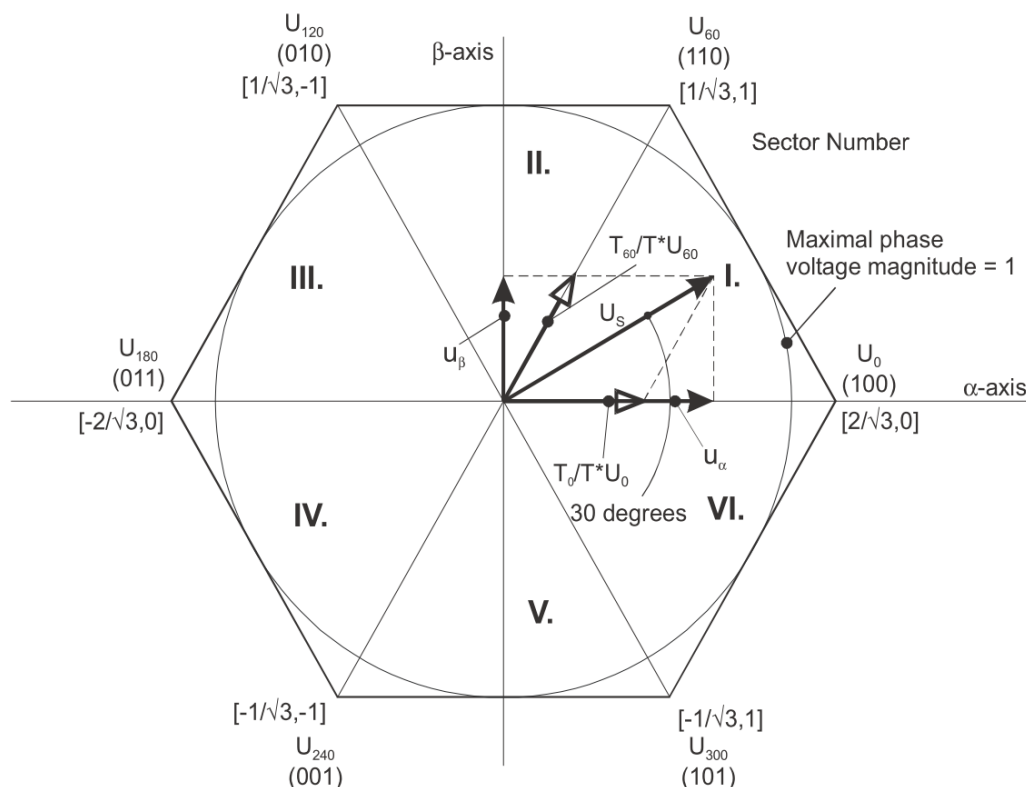
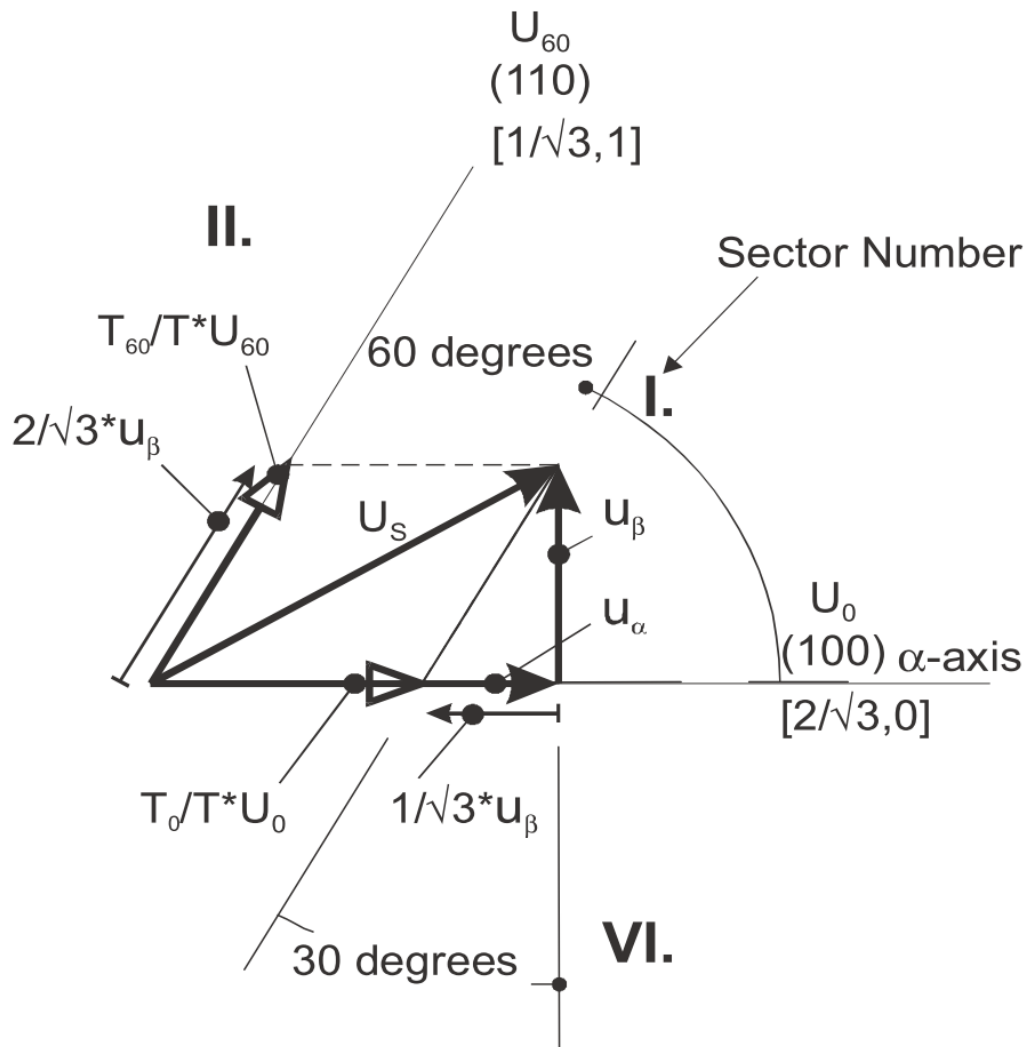
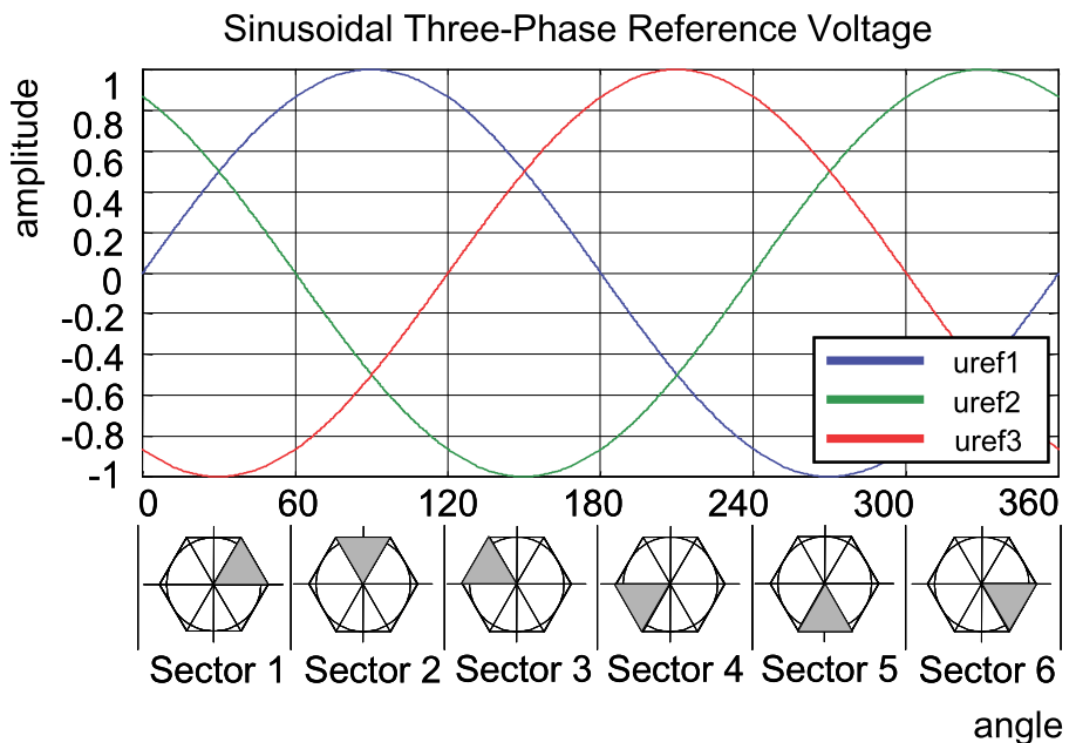

Figure 2-7. Projection of reference voltage vector in the respective sector
Figure 2-8. Detail of the voltage vector projection in the respective sector
Figure 2-12. Reference voltages U_{ref1} , U_{ref2} , and U_{ref3}
Referring to this principle, the objective of the standard space vector modulation is an approximation of the reference stator voltage vector U_s , with an appropriate combination of the switching patterns, composed of basic space vectors. The graphical explanation of this objective is shown in Figure 2-7 and Figure 2-8.
The modified Inverse Clark transformation projects the quadrature- u_β component into u_{ref1} , as shown in Figure 2-11 and Figure 2-12, whereas voltages generated by the conventional Inverse Clark transformation project the direct- u_α component into u_{ref1} .
In the worst case, at least three simple comparisons are required to precisely identify the sector of the stator reference voltage vector. For example, if the stator reference voltage vector is located as shown in Figure 2-7, the stator-reference voltage vector is phase-advanced by 30° from the direct α -axis, which results in the positive quantities of u_{ref1} and u_{ref2} , and the negative quantity of u_{ref3} ; see Figure 2-12. If these quantities are used as the inputs for the sector identification tree, the product of those comparisons will be sector I. The same approach identifies sector II, if the stator-reference voltage vector is